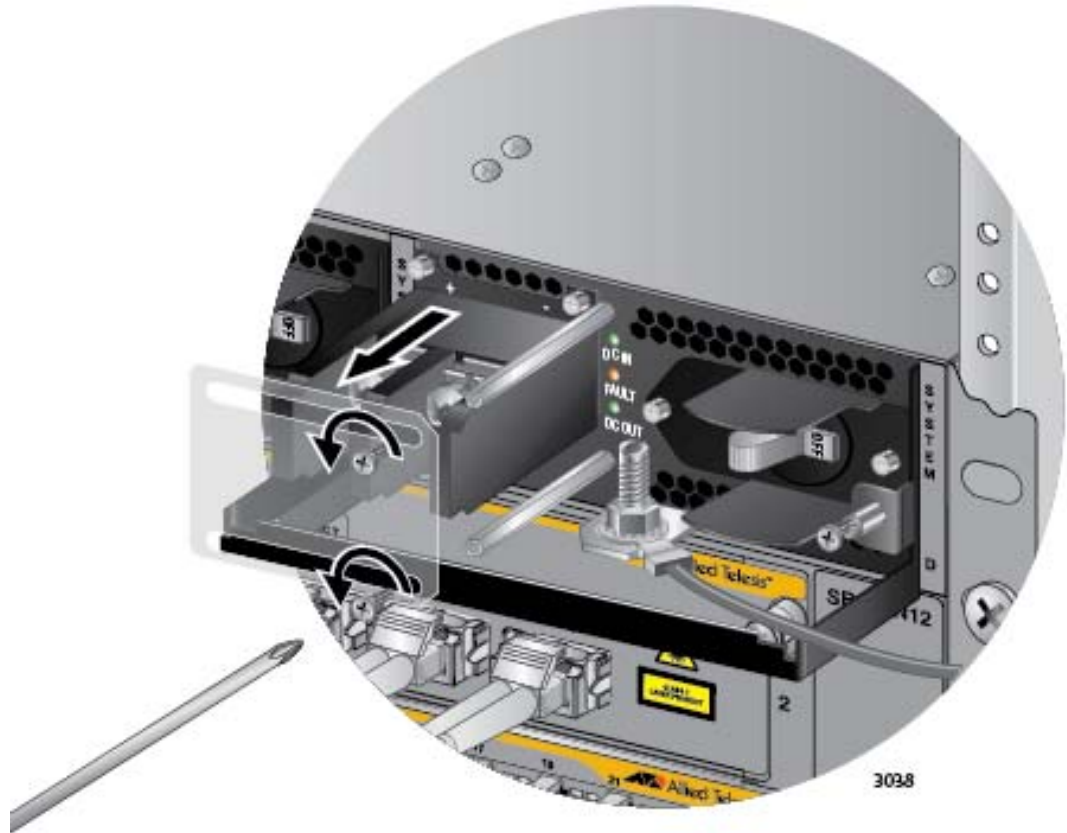

Figure 149. Removing the Plastic Cover
- Using a #1 Phillips-head screwdriver, remove the two screws that secure the plastic cover over the positive and negative terminals and remove the plastic cover from the power supply, as shown in Figure 149. You may need to lift the locking handle slightly to access the bottom screw.